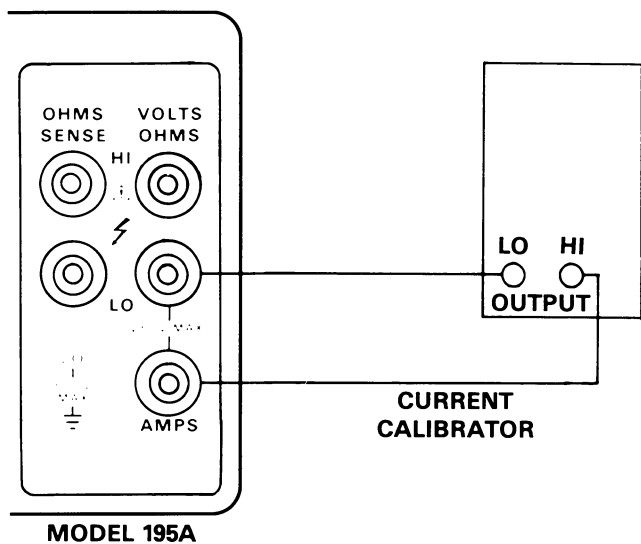

Figure 7-6. Current Calibration Connections
1. Connect the calibrator to the Model 195A as shown in Figure 7-6.